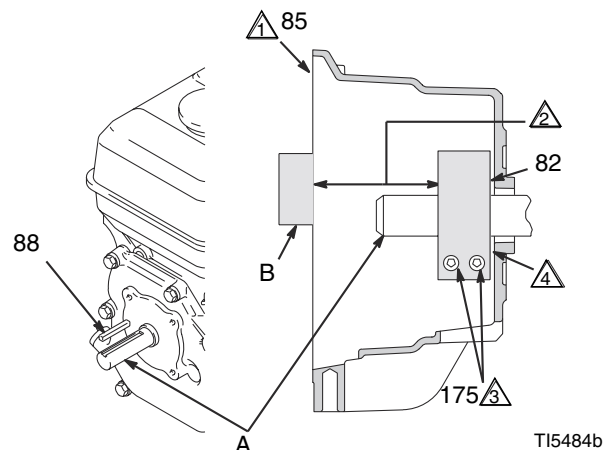

FIG. 9
4. FIG. 9. Loosen two screws (175) on clamp (82),
5. Push screwdriver into slot in clamp (82) and remove clamp.
1. FIG. 9. Install engine shaft key (88).
2. Tap clamp (82) on engine shaft (A) with plastic mallet. Maintain dimension shown note 2. Chamfer must face engine.
3. Check dimension: Place rigid, straight steel bar (B) across face of clutch housing (5). Use accurate measuring device to measure distance between bar and face of clamp. Adjust clamp as necessary. Torque two screws (175) to 125 +/- 10 in-lb (14 +/- 1.1 N•m).